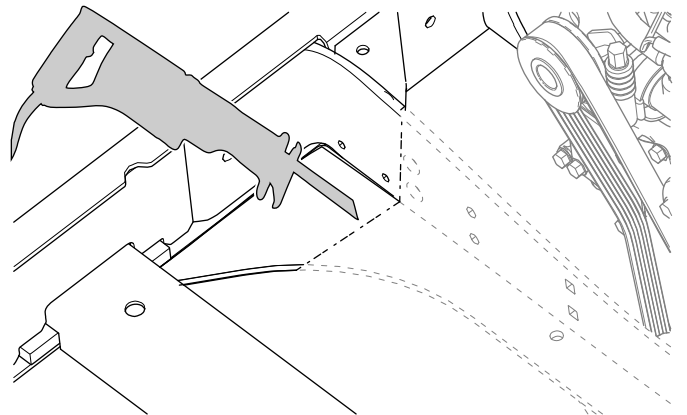

Figure 10
3. Use a reciprocating saw to cut straight through the metal along the markings (Figure 10). If required, use a sander to ensure that the cuts are flush to the edge.